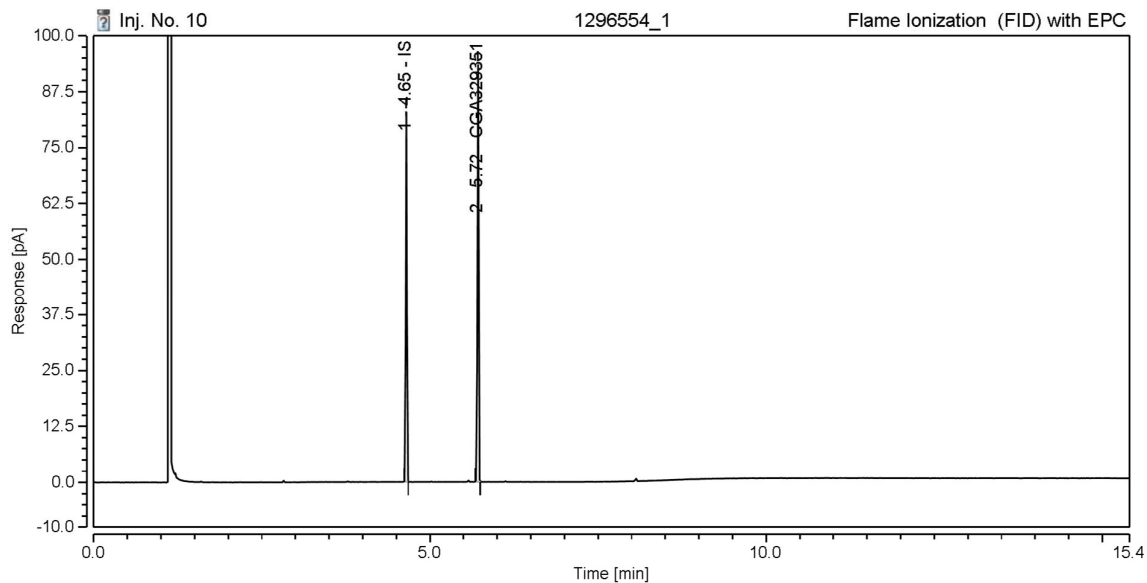

Fig. 2 Typical chromatogram of Metalaxyl TC
2.2 GLC As for Metalaxyl technical YYY/TC/(M)/2.2 and Fig 2.
- 2.2 **GLC.** As for Metalaxyl technical YYY/TC/(M)/2.2 and Fig 2.